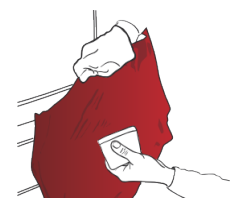

Figure 22
- ▶ If necessary, lift the film, stretch it again and completely wrap the convex surface, then apply it. (FIG. 22)